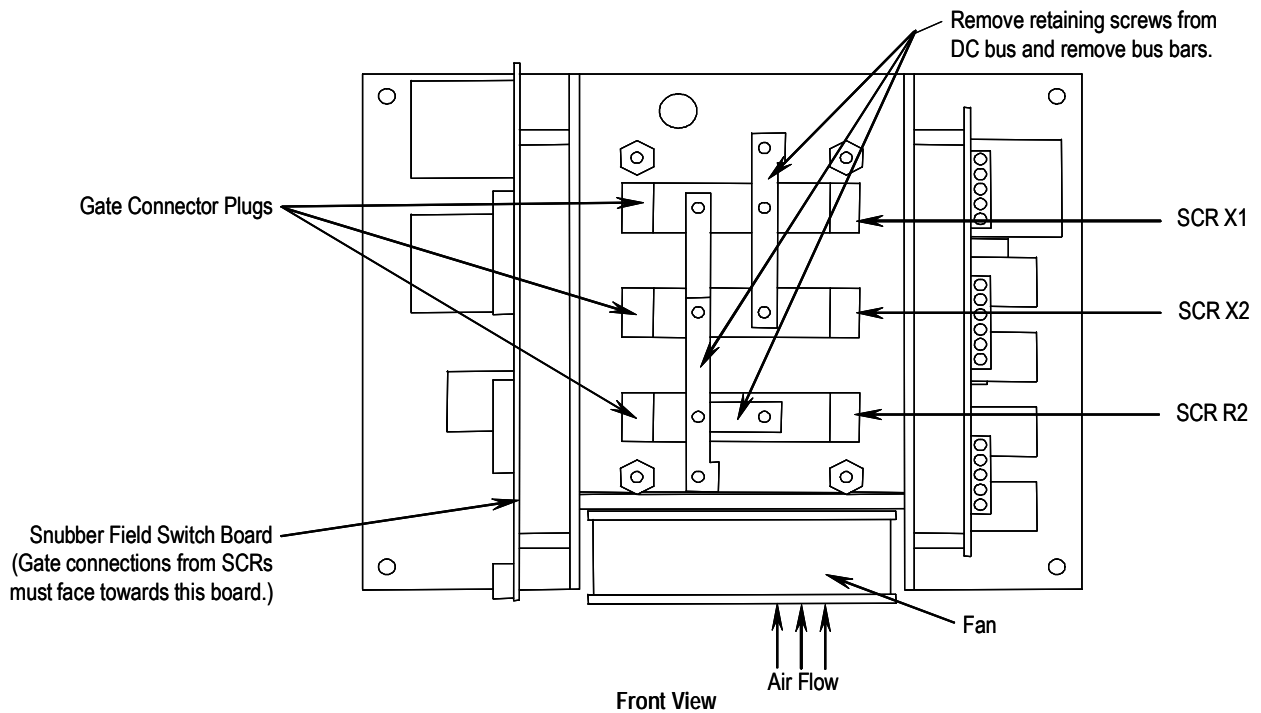

Figure 5.5 – SCR Replacement
- 7) Remove the gate connector plug from the SCRs that will be replaced (see Figure 5.5).
- 9) Remove the SCR and replace it with the new one. When installing new devices, start at the top (X1) and work down. (Refer to Figure 5.5)